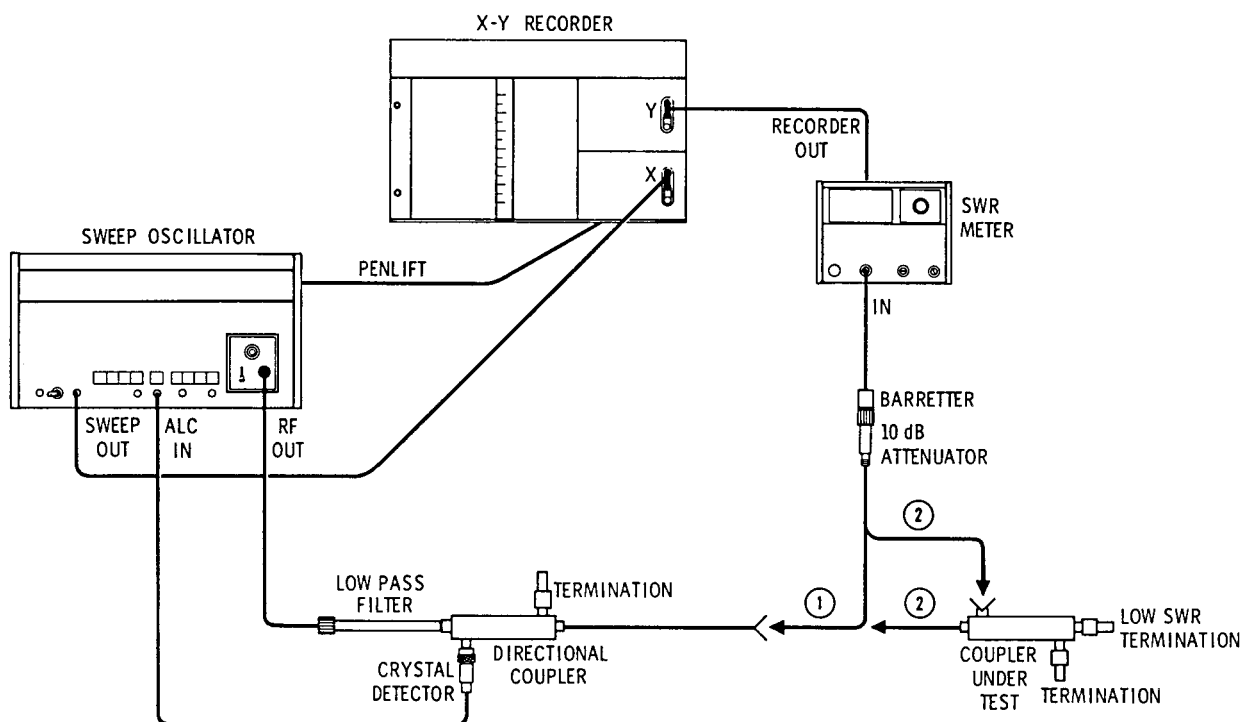

Figure 12 Coupling Test Setup
Description Refer to Figure 12 for test setup and for test equipment.
1. Connect the equipment as shown in (1) in **Figure 12**.
- a. Connect the coupler under test as shown at (2) in coupling test setup, **Figure 12**. This will insert the nominal 20 dB (down) coupling (attenuation) in the signal path.